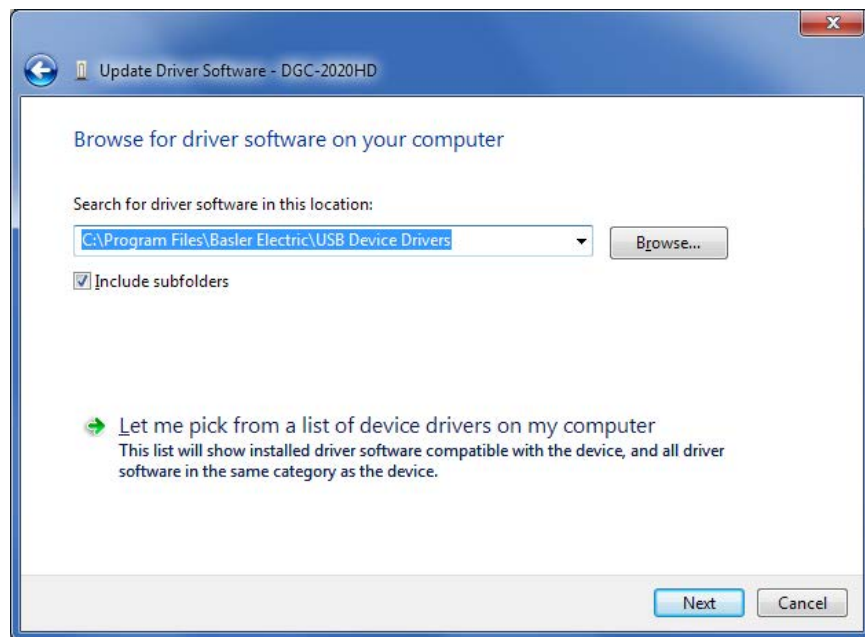

Figure 85. Update Driver Software - DGC-2020HD
Step 5. Click Browse and navigate to C:\Program Files\Basler Electric\USB Device Drivers\USBIO. Click Next. See Figure 85.